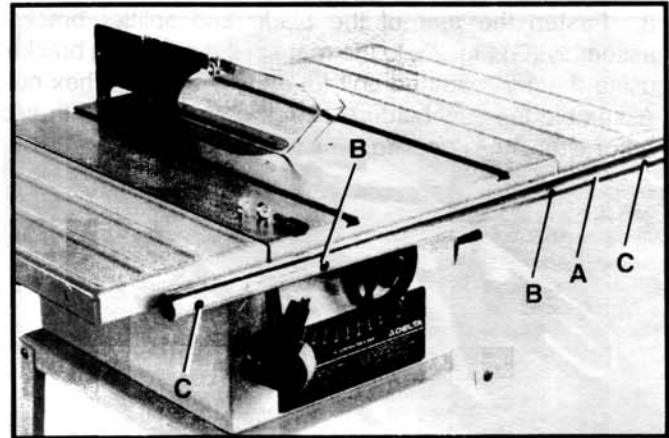
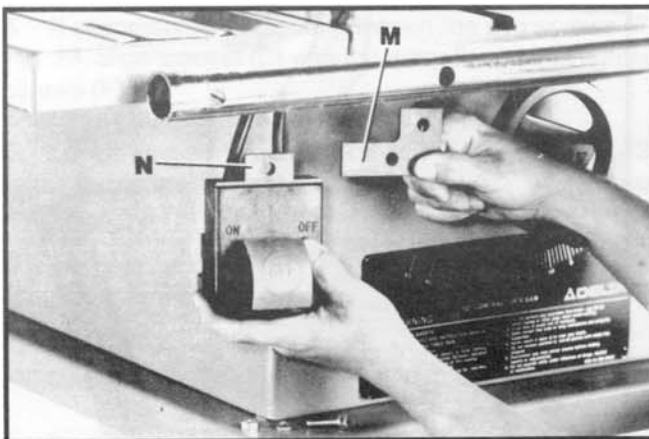
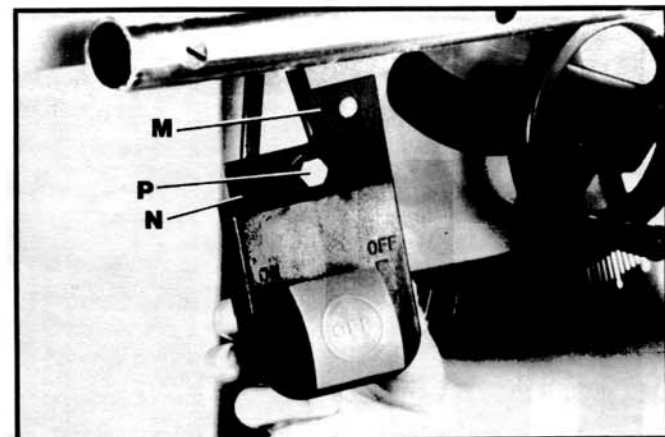
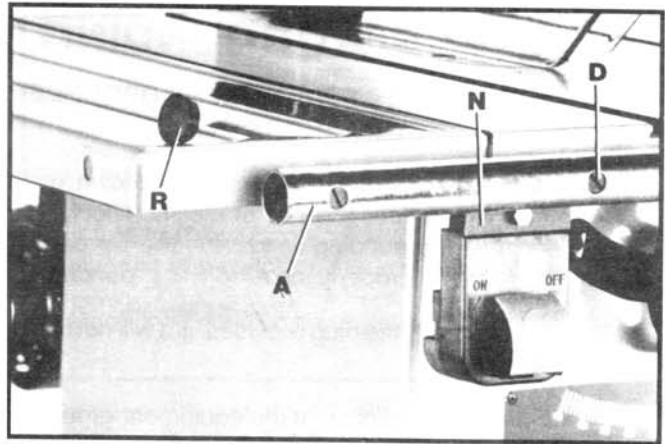

Fig. 30
Fig. 32
Fig. 33
Fig. 34
1. The guide rail (A) Fig. 30, with graduations is to be assembled to the front of the saw table, as shown, with the graduations up. The guide rail is fastened to the front of the saw table at points (B) and to the extension wings at points (C), as follows:
4. Align hole in switch mounting bracket (M) Fig. 32, with mounting hole in switch assembly (N) and fasten bracket to switch assembly with 3/8" long hex head cap screw (P) Fig. 33, lockwasher and hex nut as shown.
5. Place switch mounting bracket (M) Fig. 33, behind lip of saw table. Align remaining hole in switch mounting bracket (N) Fig. 34, with hole in saw table and mounting hole in guide rail and fasten switch assembly to guide rail and table with special screw (D), spacer and hex nut. (Refer to hardware shown in Fig. 30.)
6. Insert one end cap (R) Fig. 34, into each end of guide rail (A).